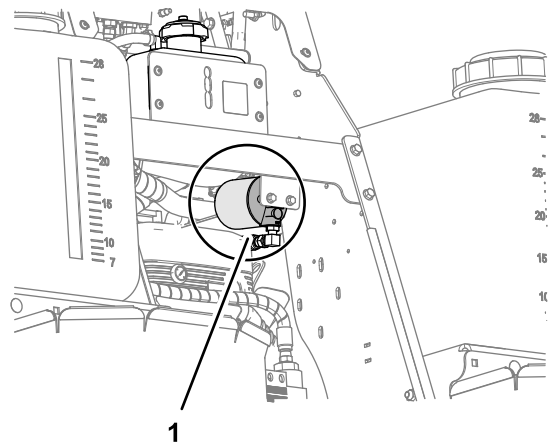

Figure 100
3. Clean area around hydraulic filter and filter head (Figure 100).